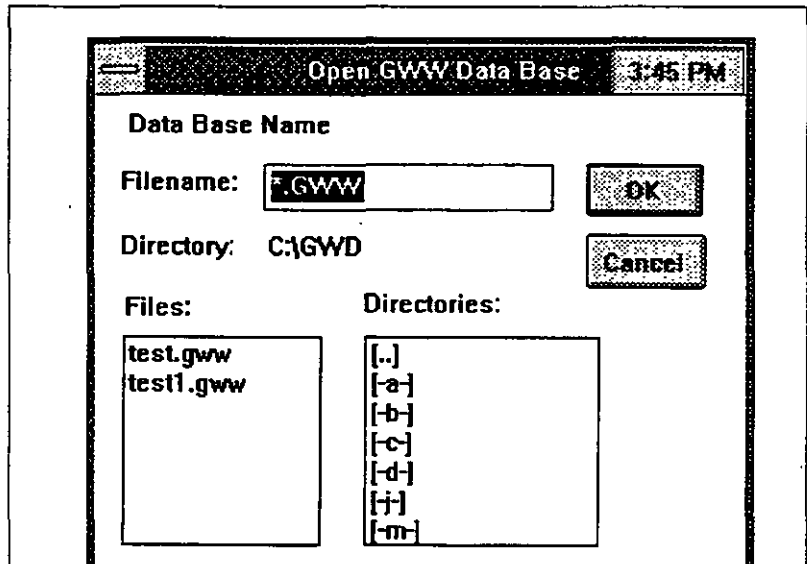

Figure 2-3
2. Select **New GWW Data Base** to create a new data base. The dialogue box as shown in Figure 2-3 will then be displayed.